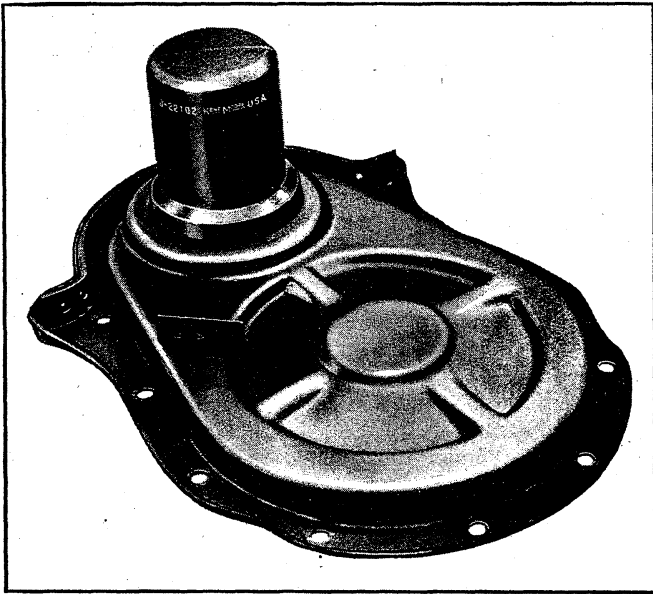

Fig. 15V - Centering Tool in Cover (396 and 427)
2. Coat the oil seal with engine oil and install Aligning Tool J-22102 in oil seal (fig. 15V) then using a new cover gasket coated with gasket sealer, install cover and gasket on cylinder block.